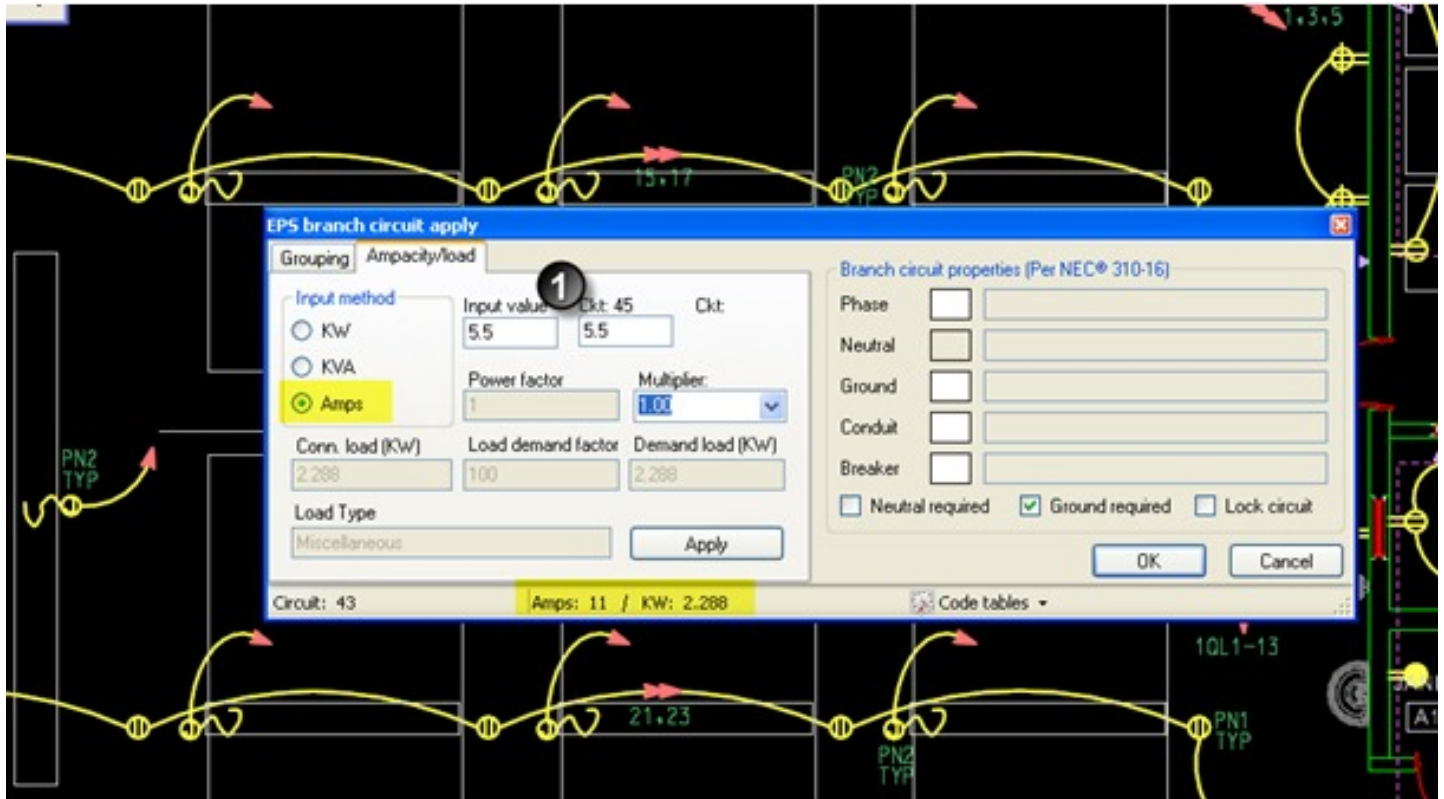

Figure 32
'2P' on Grouping tab and the circuit number it is to be shared with (45). EPS determines load on each phase separately (so each phase can have a different loads if required) so the 11 amps has to be divided between them. $11 / 2$ (phases) = 5.5 amps per phase shown in figure 32. Now press enter key. Change the circuit description name to SHOP LIFT.